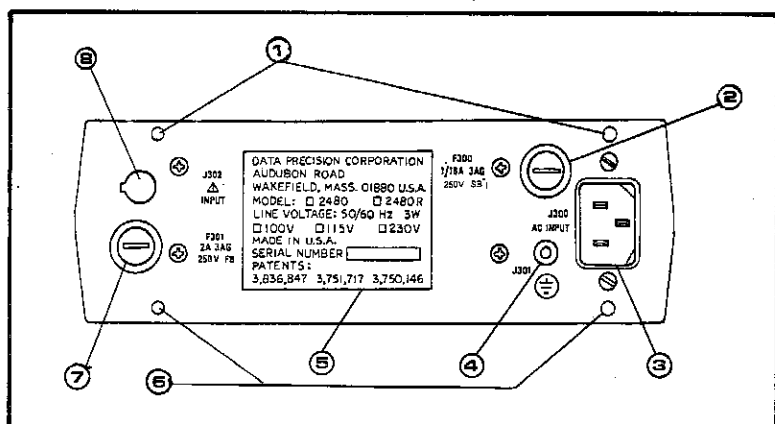

Figure 2-3 — Model 2480/2480 DMM Rear Panel Features
Table 2-2 (Figure 2-3)
a. Model 2480/2480R Digital Multimeter is powered by 110VAC (Model 2480/2480R) or 230VAC (Model 2480E/2480RE) or 100VAC (Model 2480J/2480JE) as determined by the ordered configuration. (See rear panel label.) Connect the line cord to the rear connector (Figure 2-3, item 3) and to the power source. In addition, any Model 2480/2480R may be powered by an accessory battery assembly, C48, field-installable in guides within the case. When a battery assembly is installed, it is always being recharged when the ac power is connected.
b. **Fuse Replacement** Table 2-5 identifies the fuse data, while Figure 2-3 indicates their location in the rear panel. To replace, unscrew fuse holder; remove spent fuse; replace in fuse holder; screw into panel.